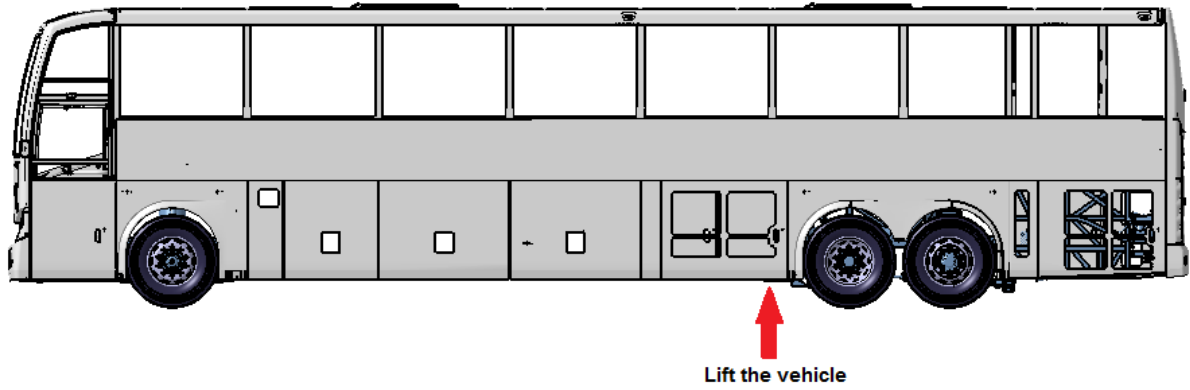

Figure-1
* Lift the vehicle up by using jack, from a jack point shown in Figure-1.